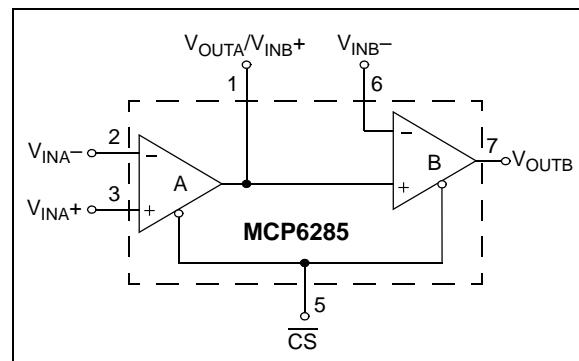

FIGURE 4-5: Cascaded Gain Amplifier.
The MCP6285 is a dual op amp with Chip Select (CS). The Chip Select input is available on what would be the non-inverting input of a standard dual op amp (pin 5). This pin is available because the output of op amp A connects to the non-inverting input of op amp B, as shown in Figure 4-5. The Chip Select input, which can be connected to a microcontroller I/O line, puts the device in Low-power mode. Refer to Section 4.4 "MCP628X Chip Select \(CS\).